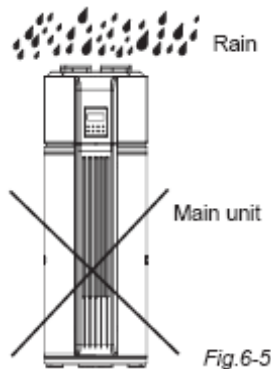

Fig. 6-5
- Warning: If rainwater reaches the internal components of the main unit, they may be damaged or pose a hazard. (Fig. 6-5)